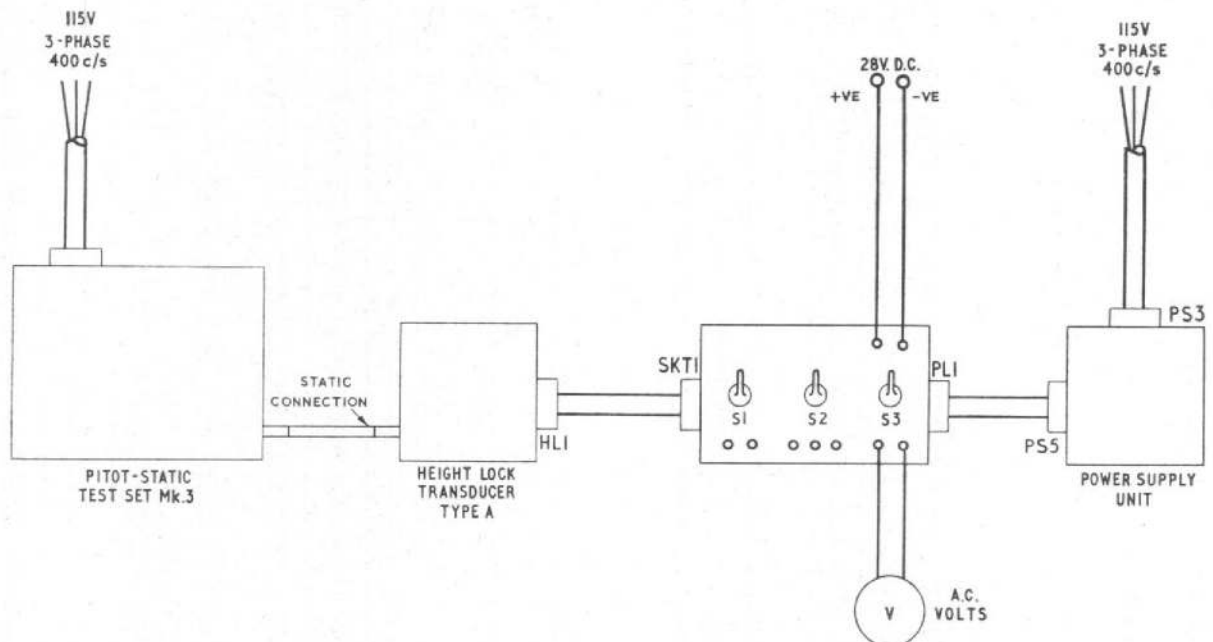

Fig. 2. Connections for leak and ranging test
- (2) Fit the blanking cap to the test set pitot outlet.
- (3) Connect a length of flexible rubber hose, not exceeding 5ft. in length and of  $\frac{5}{16}$  in. internal diameter, to the STATIC outlet and seal the end of the hose.
- (4) Set the pitot-static test set Mk. 3 change-over valve to STATIC INPUT.
- (5) Slowly open the STATIC CONTROL VALVE and actuate the hand pump to reduce the pressure to 300mb.
- (6) Close the STATIC CONTROL VALVE and note any change of reading of the STATIC INDICATOR after 5 min.
- (7) Set PITOT-STATIC CHANGE OVER VALVE to STATIC VENT.
- (8) Slowly open the STATIC CONTROL VALVE and increase to ambient pressure.
9. (1) Connect the unit under test to the transducer test circuit and pitot-static test set Mk. 3 as shown in fig. 2, securing the flexible hose by means of hose clips.